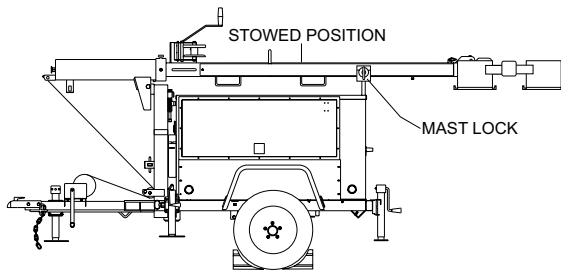

Figure 5. Light Tower in Stowed Position
2. If the light tower is in the deployed position, place the tower mast into the cradle support (stowed position). See Figure 5. Make sure cradle lock/release pin has been inserted and the mast is locked.